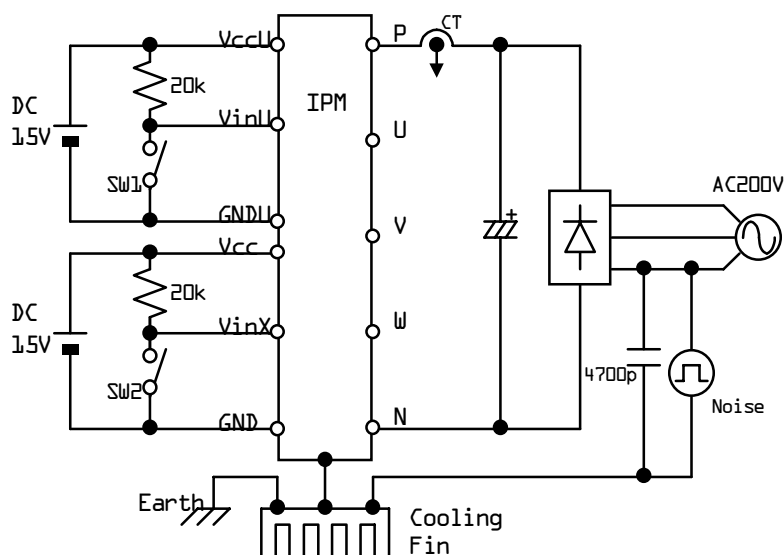

Figure 5. Noise Test Circuit
7. Noise Immunity (Vdc=300V、Vcc=15V、Test Circuit Fig 5.)